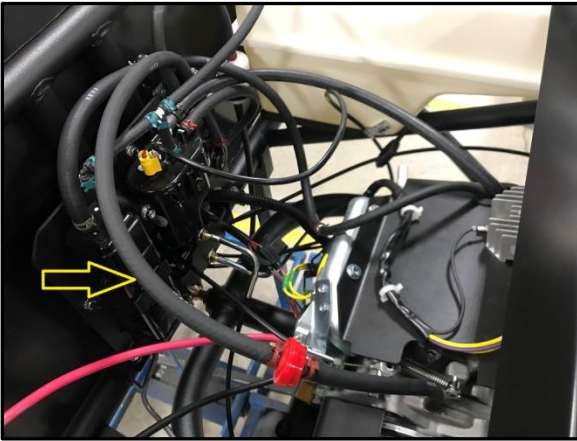

Fig 1 – Pulse Pump Hose Assembly
- 2- Locate the pulse pump and connecting lines. (Ref Fig 1)